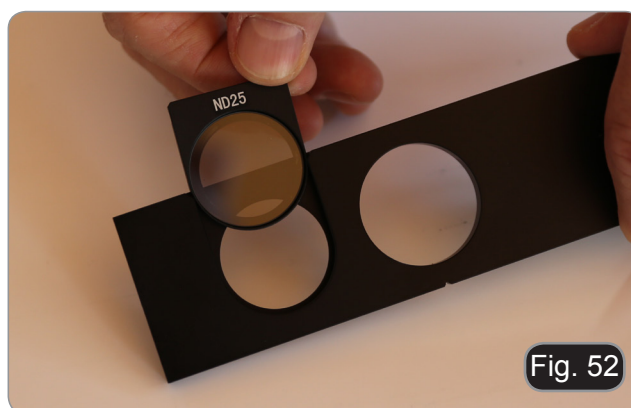

Fig. 52
1. Slide the filter into the hole and place it. (Fig. 52)
- Moving the slider toward left or right to insert the desired position. A click sound will confirm the proper positioning of the slider. (Fig. 52)
1. When the position ① is inserted (provided that a ND filter is installed) the light coming from the lamp housing will be decreased, according to the filter type installed.
2. When the position ② is inserted, no filters are engaged into the light path.
3. When the position ③ is inserted, the shutter is engaged in the light path and therefore no light will come.